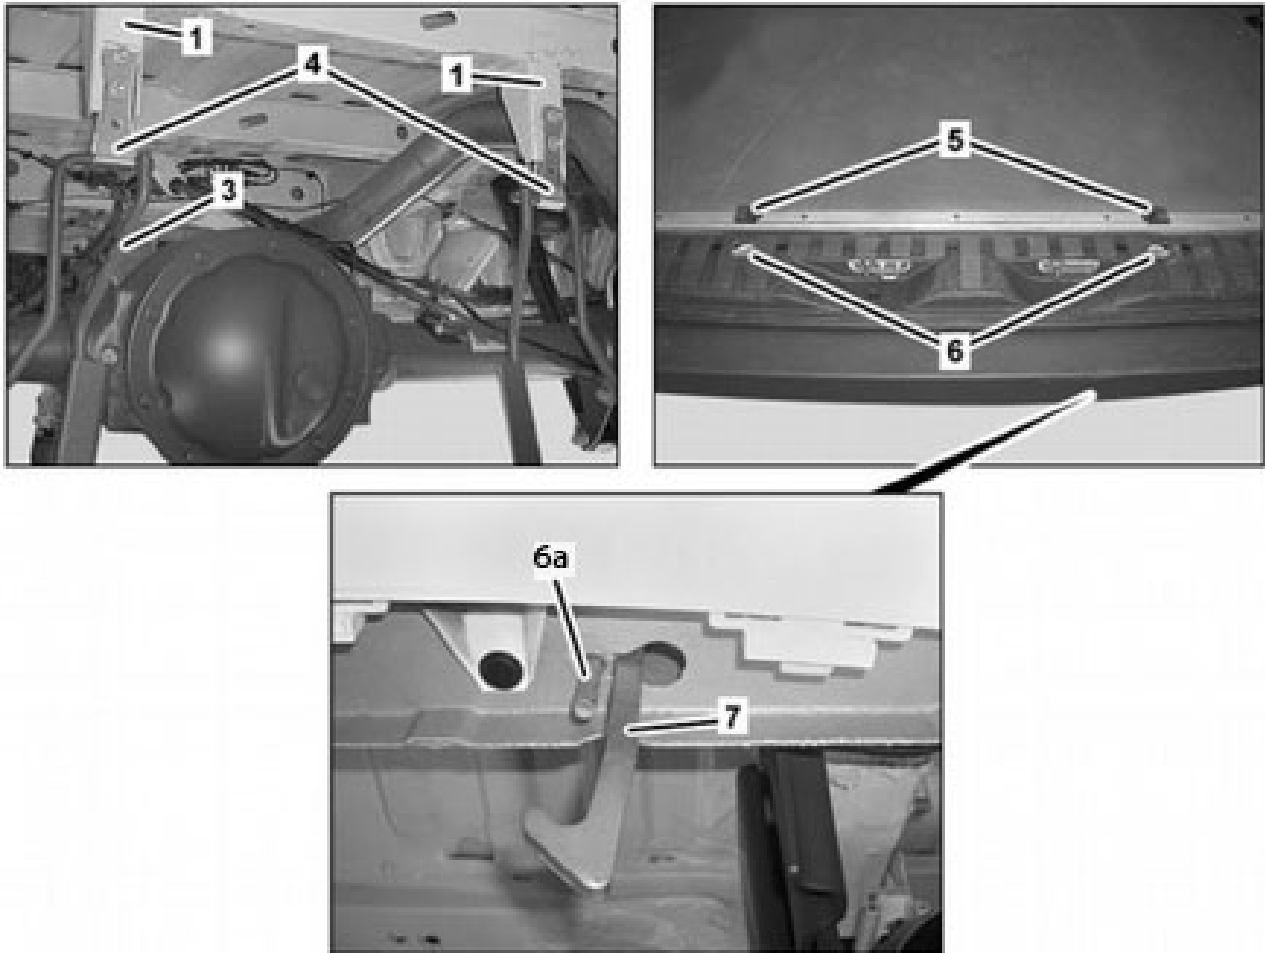

Figure 1
Check whether the spare wheel holder is seated correctly in the fastening hooks (figure 1 number 7).
1. Remove caps (Figure 1 number 5)
2. Retighten bolts (Figure 1 number 6) of spare wheel holder to cross member / longitudinal member to **23 Nm**.